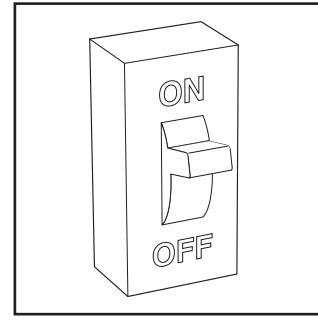

Fig. 14 – Turn on Electrical Supply
- Turn ON the electrical supply to the furnace and wait one minute. See Fig. 14.